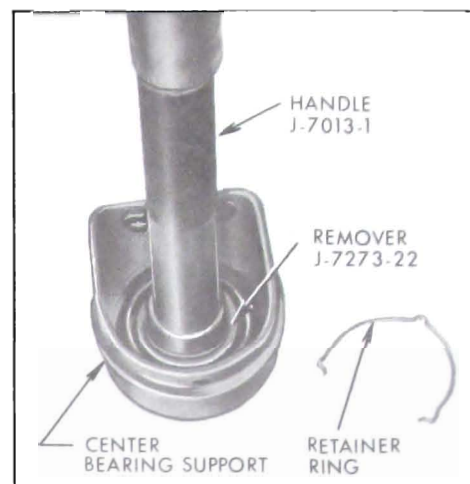

Figure 6-92—Removing Center Bearing From Support
b. On 49000, remove retainer rings from bearing assembly and remove center bearing with assistance of Remover J-7273-22 and Handle J-7013-1. See Figure 6-92.